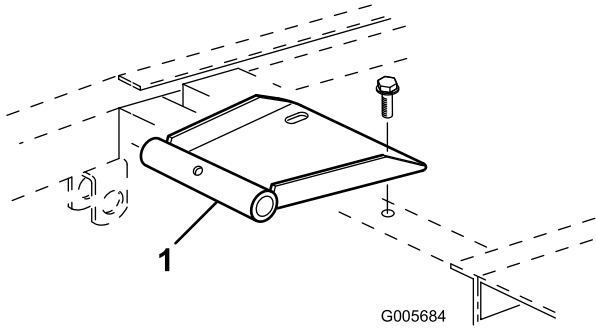

Figure 8
2. Mount seat pivot bracket to frame with 2 flange screws supplied in kit (Figure 8).
4. Mount seat pivot bracket to frame with (2) flange screws supplied in kit (Figure 8)